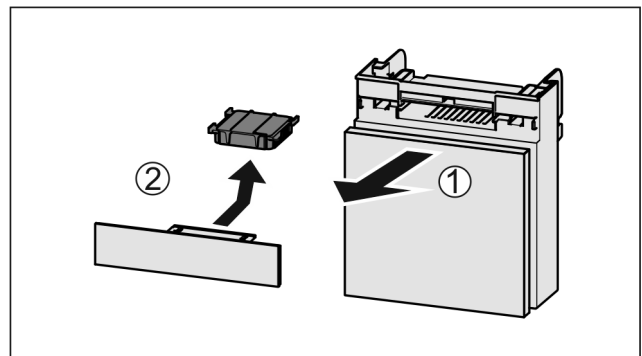

Fig. 128
- ▶ Pull out the compartment Fig. 128 (1).
- ▶ Remove the carbon filter Fig. 128 (2).